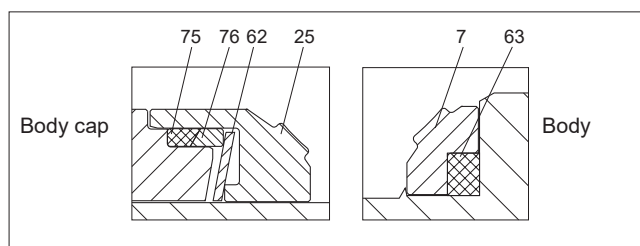

Fig. 17 H seat
- Place the back seal (63) into the seat (7), see Fig. 17, and then both parts all the way into the body counterbore.